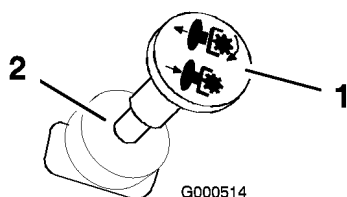

Figure 11
3. Pull out on the blade control switch to engage blades (Figure 11).
Push the blade control switch to Off to disengage the blades (Figure 11).